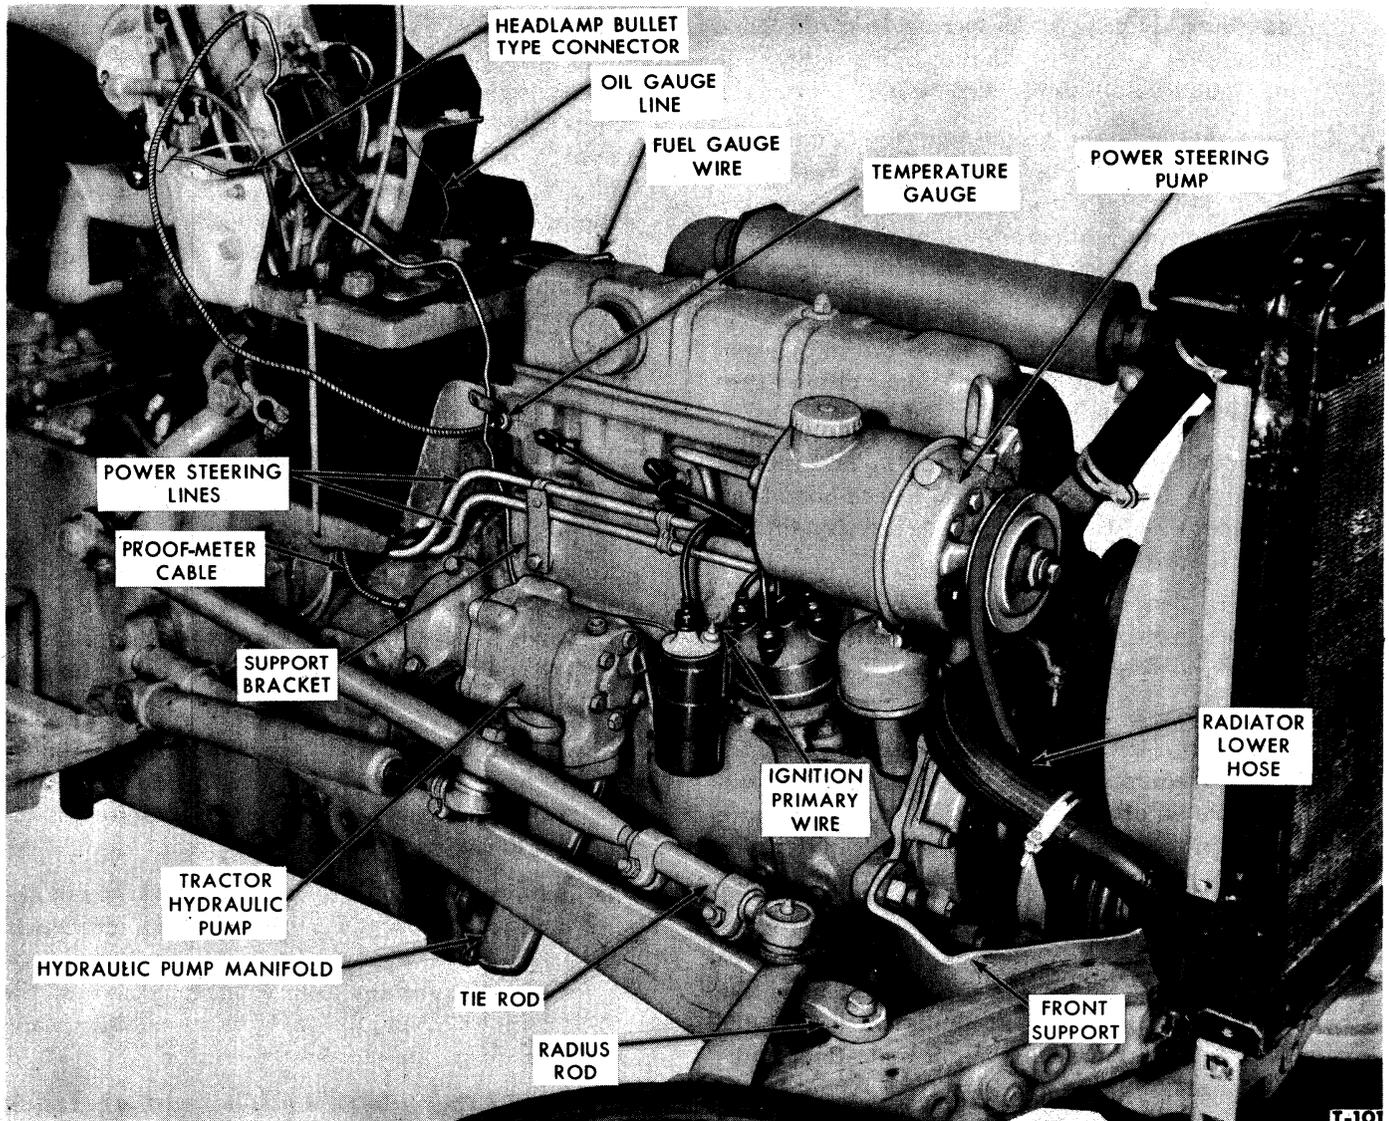
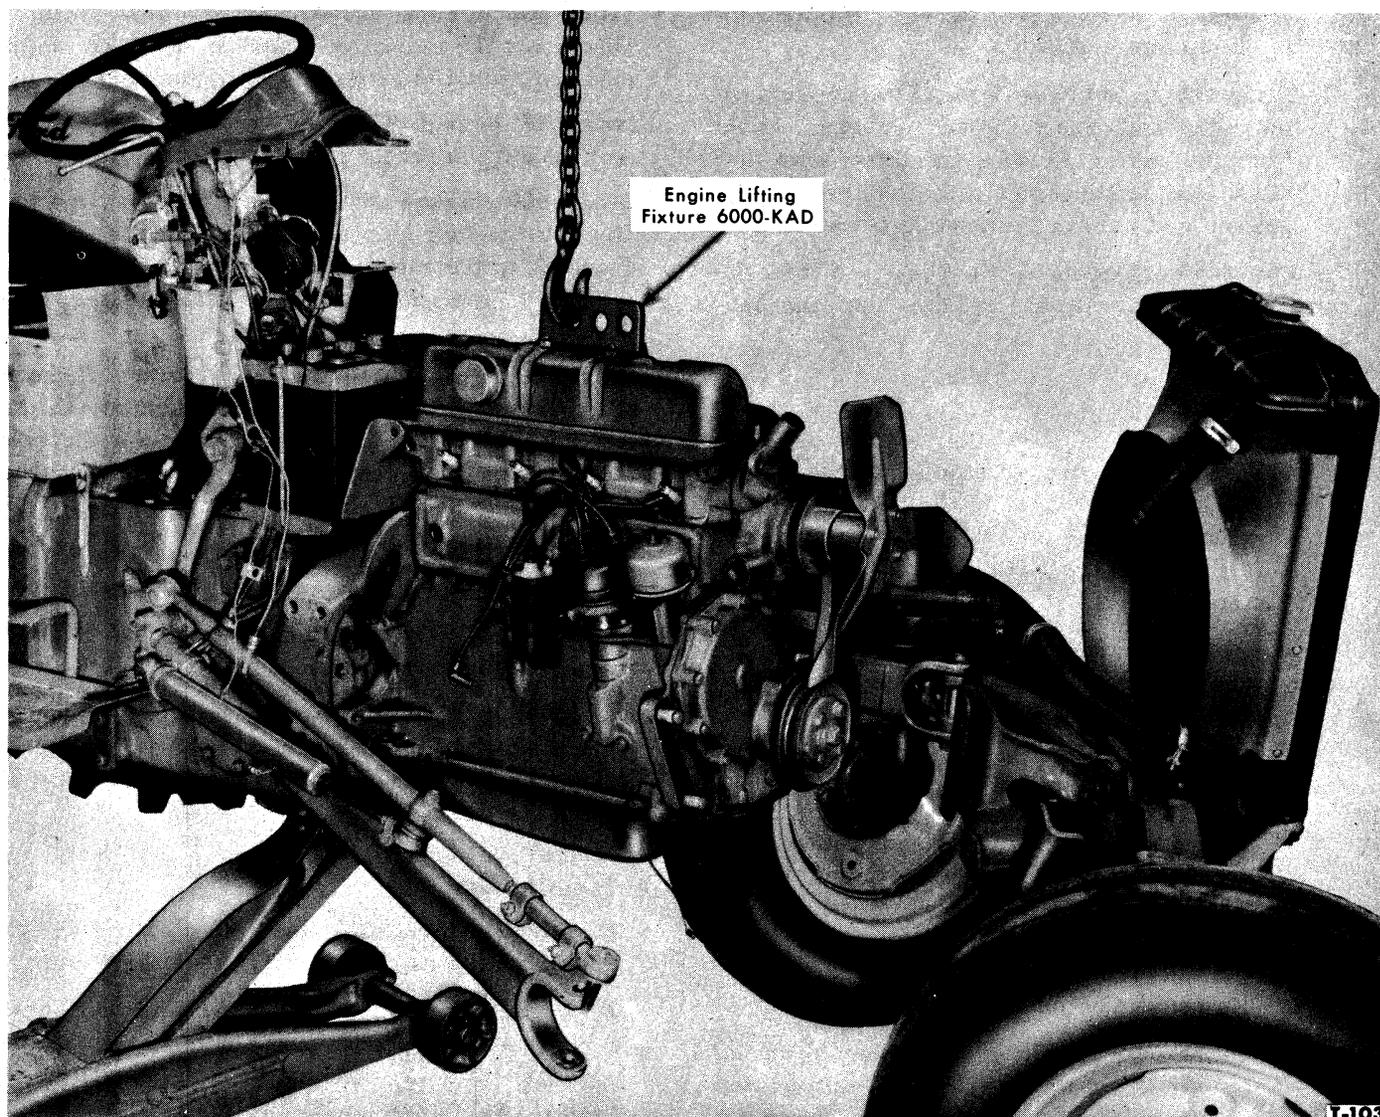

Figure 2—Right Side of Engine
Figure 4—Removing Engine
4. Disconnect the bullet type connector adjacent to the headlamp switch on the right side of the hood rear lower panel, see Figure 2. Disconnect the fuel gauge wire from the fuel tank gauge.
headlamp switch on the right side of the hood rear lower panel, see Figure 2. Disconnect the fuel gauge wire from the fuel tank.
4. Disconnect the bullet type connector adjacent to the headlamp switch on the right side of the hood rear lower panel, see Figure 2. Disconnect the fuel gauge wire from the fuel tank.
Power Steering: Disconnect the two hydraulic lines that connect the pump to the steering gear as shown in Figure 2. Remove the bolt that attaches the power steering hydraulic lines support bracket to the valve
Series 600 through 801—General Purpose Tractors: Remove the four nuts that attach the axle support, Figure 2, to the engine. Carefully swing the axle and radiator to the left side of the tractor as shown in Figure 4.
4. Remove the engine-to-transmission attaching bolts. Carefully lift the engine away from the transmission as shown in Figure 4. Mount the engine in an engine stand.
1. Attach an engine lift hook or a chain to the cylinder head as shown in Figure 4.
Series 600 through 801—General Purpose Tractors: Swing the axle support into place on the engine. Make certain that the radius rod is in place on the axle then install the four nuts that attach the front support to the engine, see Figure 2. Install the radius rod to axle attaching bolt. Connect the tie rod to the steering arm.
6. Connect the water temperature gauge line to the engine. Connect the Proof-Meter cable to the hydraulic pump, see Figure 2.
10. On a tractor equipped with power steering, hold the pump and lines in place on the engine and install the two pump mounting bolts. Connect the two hydraulic lines to the steering gear (600 through 801 Series). Connect the hydraulic line bracket to the valve cover with the attaching bolt, see Figure 2.